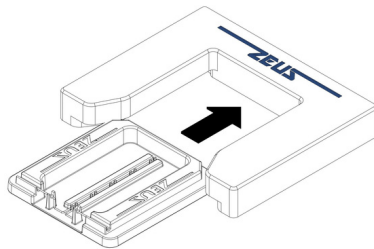

Figure 7
Dish Fastener (DF) is a metal block designed to fit in the channels on the sides of the petri dish (ZEUS Electro Dish) and made for keeping the petri dish stable during processing. It also acts as a thermal block. Due to its U-shaped structure, it enables the petri dish to be viewed under a stereo microscope (Figure 7).
7. During the procedure, continue following the cells under an inverted or stereo microscope. Apply electrical stimulation according to Device Usage Instructions within Application Instructions. At this stage, Dish Fastener can be used to fix the petri dish (ED) under a microscope (Figure 7).